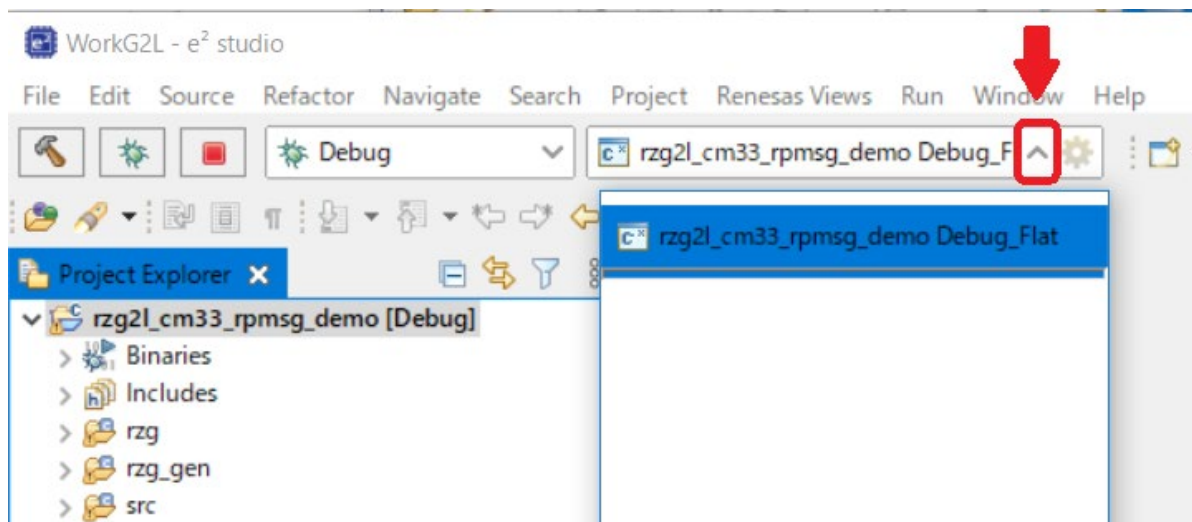

Figure 4-4. Select of Debug Configuration
- Choose rzg2l\_cm33\_rpmsg\_demo Debug\_Flat or rzg2l\_cm33\_rpmsg\_demo Release\_Flat from the drop-down list indicated by a red arrow in Figure 4-4.